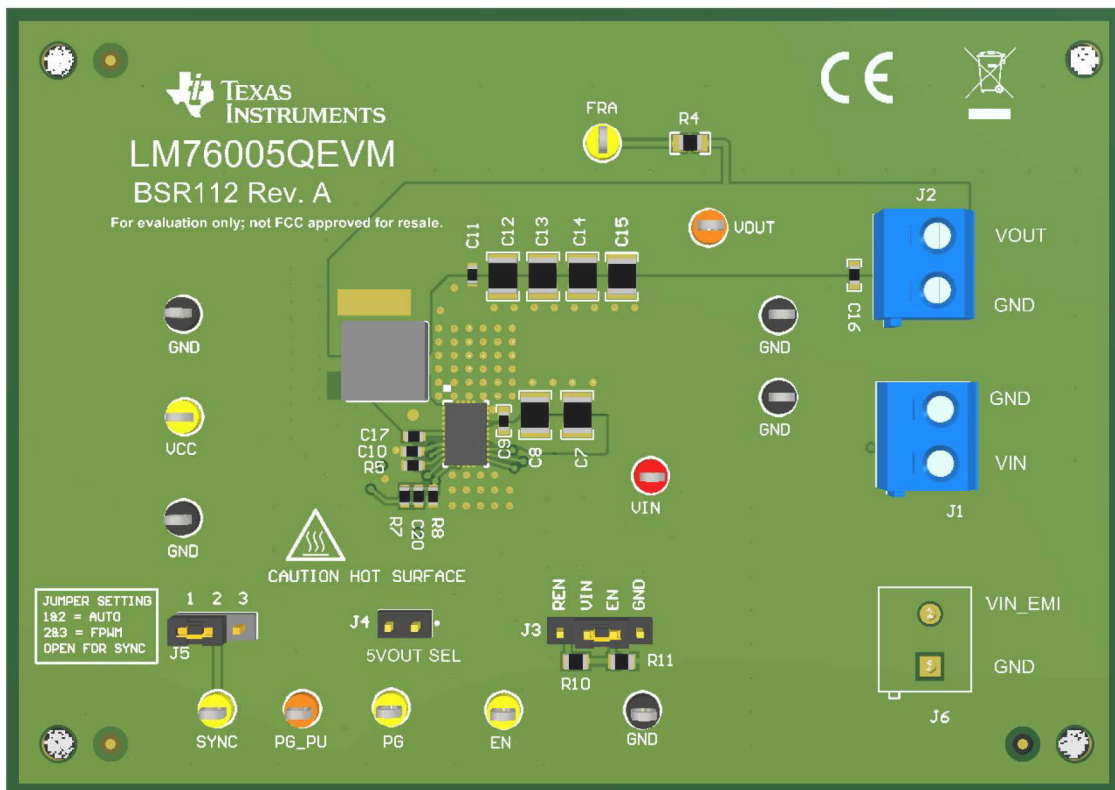

Figure 2-1. Top View of LM76005QEVM
This section describes the test points and connectors on the EVM and how to properly connect, set up, and use the LM76005QEVM. Refer to Figure 2-1 for a top view of the EVM and relative placement of the different test points and connectors.
- Updated Figure 2-12